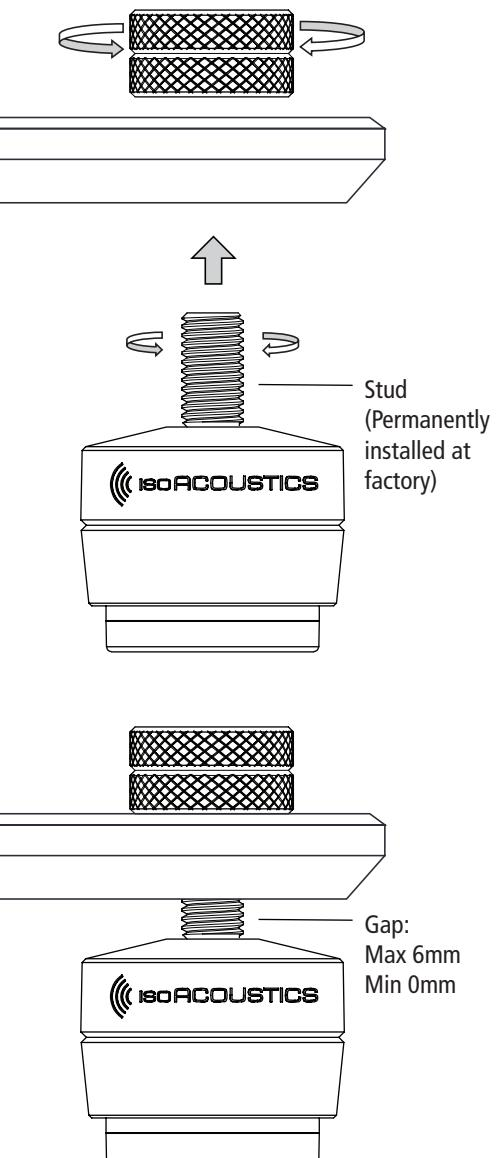

Figure 4 / Figura 4
**(EN) Installation of IsoAcoustics (Figure 4)**
**(FR) Installation d'IsoAcoustics (Figure 4)**